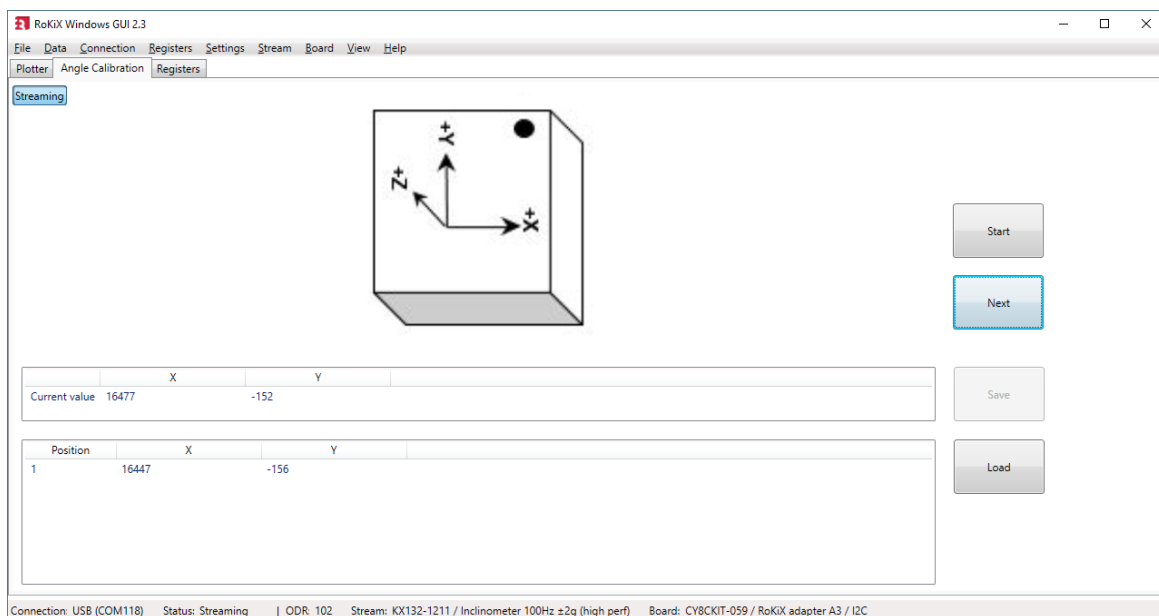

Figure 45. Angle Calibration. Position - 2
2. Click Next and hold the device still until the diagram changes to the 2nd position (Figure 45)